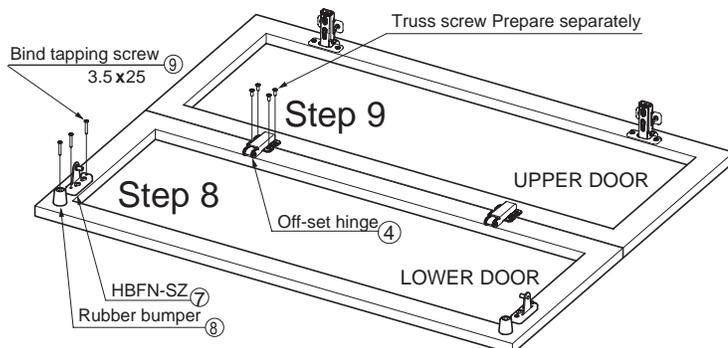

Fig. 8 Installation of HBFN-SZ mounting plate and off-set hinge
- Step 8. Fix the HBFN-SZ mounting plates (7) tightly and place the rubber bumpers (8) to the specified position of the back of the lower door with the attached bind tapping screw 3.5x25 (9). (Fig. 8)
- Step 9. The off-set hinges (4) should be used for the connection of the upper door and the lower door. The installing position of the off-set hinges should be set the hinge center at the lower door side. (Fig. 8)